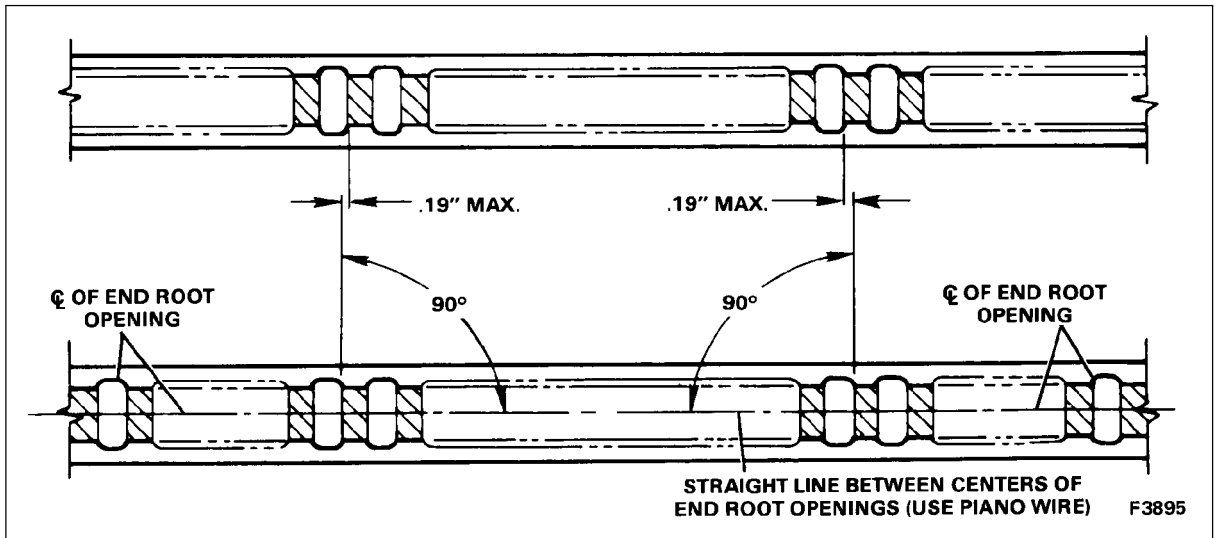

Figure 6-27. Rack Tooth Alignment
- Rack tooth alignment. See Figure 6-27. Rack tooth alignment is more important than the location from the rear dipper pin centerline.